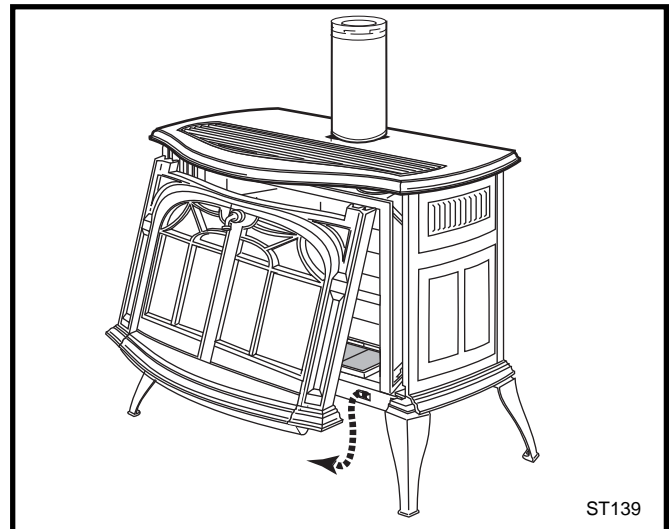

Fig. 44 Remove the Stove Front.
1. Remove stove front. Lift stove front up and then swing bottom out and away to disengage from the stove body. (Page 22, Fig. 44)
2. Lift the Stove Front up and then swing the bottom out to disengage it from the heater shell. (Fig. 44)
1. Remove the Front, Glass Frame and Glass Panel. (Figs. 44 & 45) Remove the old gasket. Use a razor blade, with rounded corners, to separate the glass and gasket from the frame, and to clean the glass of any remaining cement or bits of gasket.